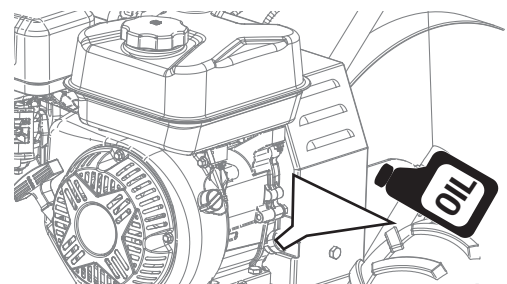

Figure 1-9
- Secure the oil cap and wipe off any excess oil. See Figure 1-9.